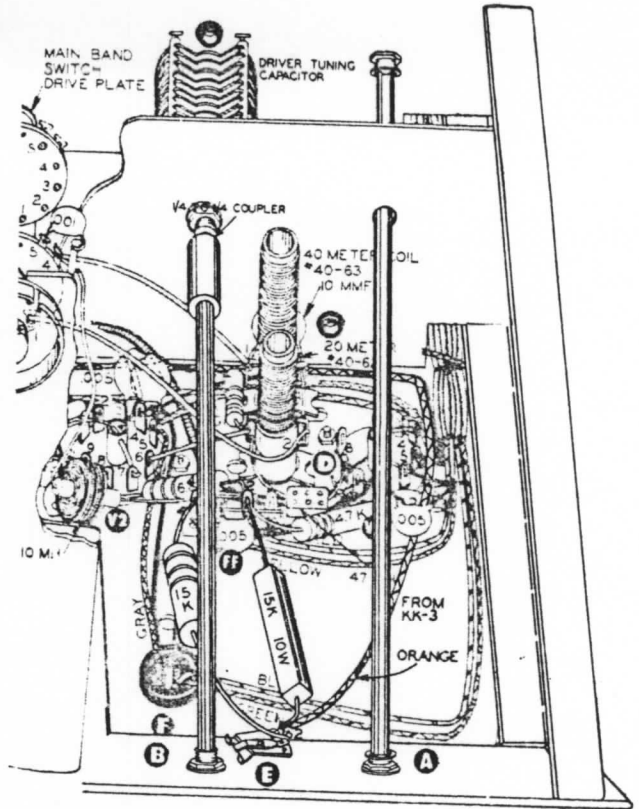

Figure 38
- () Locate the SPST rotary spotting switch (#63-195) and, placing a 3/8" lockwasher on the bushing, mount this switch at hole G as shown. Secure with a 3/8" control flat washer and nut from the front panel and position the switch terminals as shown in Figure 38 on page 42.
Refer to Figure 38 for the following steps:
- (✓) Again referring to Figure 38, locate the driver tuning shaft (#453-75) and insert it through hole B in the front panel. Placing the 6-32 x 1/8" slotted setscrews in the 1/4" to 1/4" shaft coupler, secure the tuning shaft to the driver capacitor shaft. Now secure the tuning shaft to the coupler.